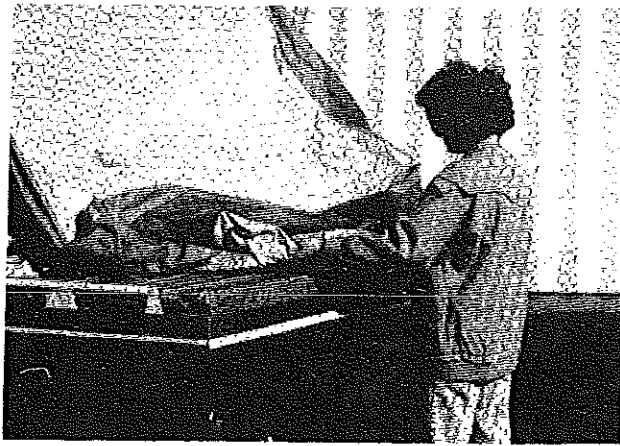
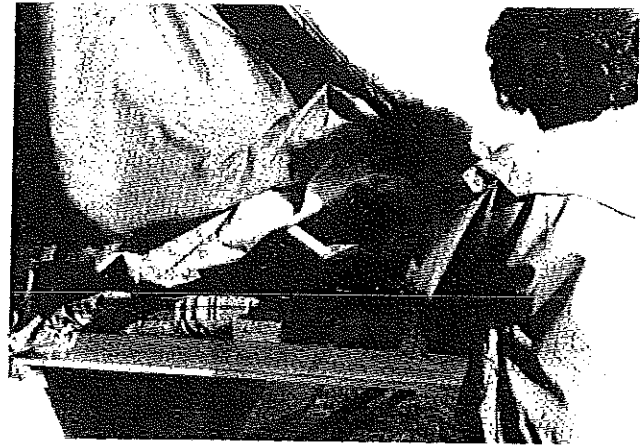

FIGURE 13
FIGURE 14
20. With both beds fully extended and supported, grasp the bottom edge of either the front or rear tent enclosure with hands approximately 2 1/2 feet apart and gently pull until the tent fabric is pulled out toward the end of the wing beds. See Figure 13. Standing at any side of the wing bed, reach in underneath of the tent fabric and grasp the side of the canvas bow and rotate toward the end of the bed. See Figure 14.